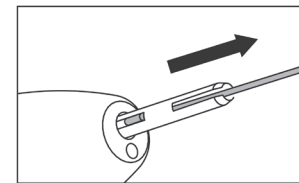

Fig. 3
2. Insert the supplied Bur Stopper puller into the chuck. Pull out the Bur Stopper by hooking at the slit of Bur Stopper. (Fig. 3)